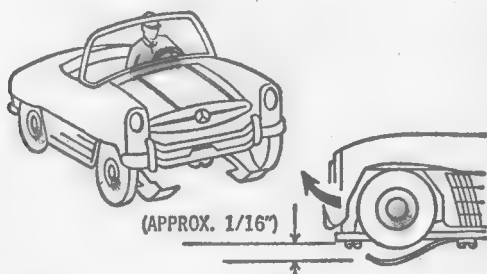

Fig. 53
1. The height of the brushes must be approximately  $1/16$  of an inch below the tires (Figure 53).
2. Brush adjustment—Figure 53.